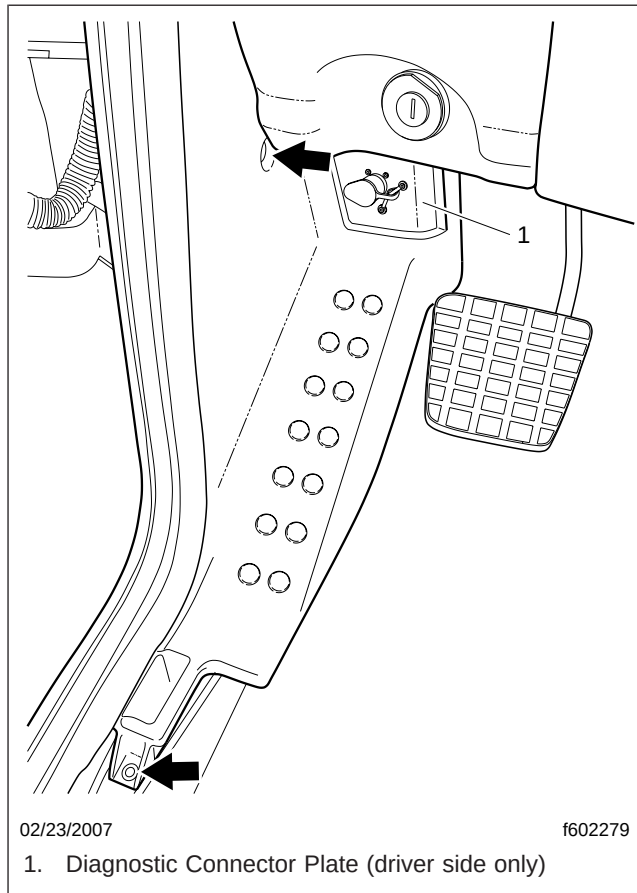

Fig. 4, A-Pillar Lower Trim Panel Fasteners
9. Attach the trim panel to the door frame and the cab side wall with two screws; see Fig. 4.